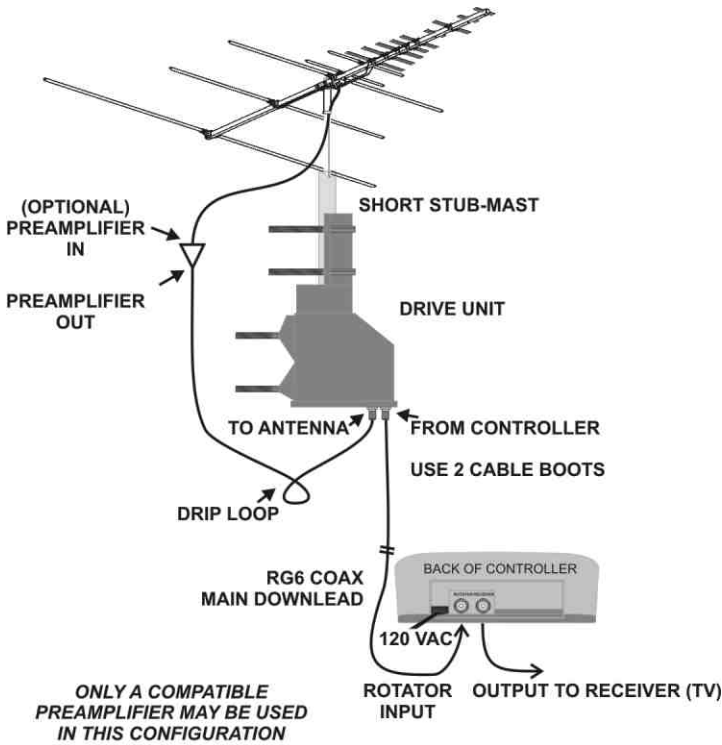

FIG 4:
This unit is designed to be capable of using the same coax cable for passing both received VHF/UHF signals and providing rotator power and control. (See Fig 4)
- Connect as shown in Fig 4 or Fig 5.